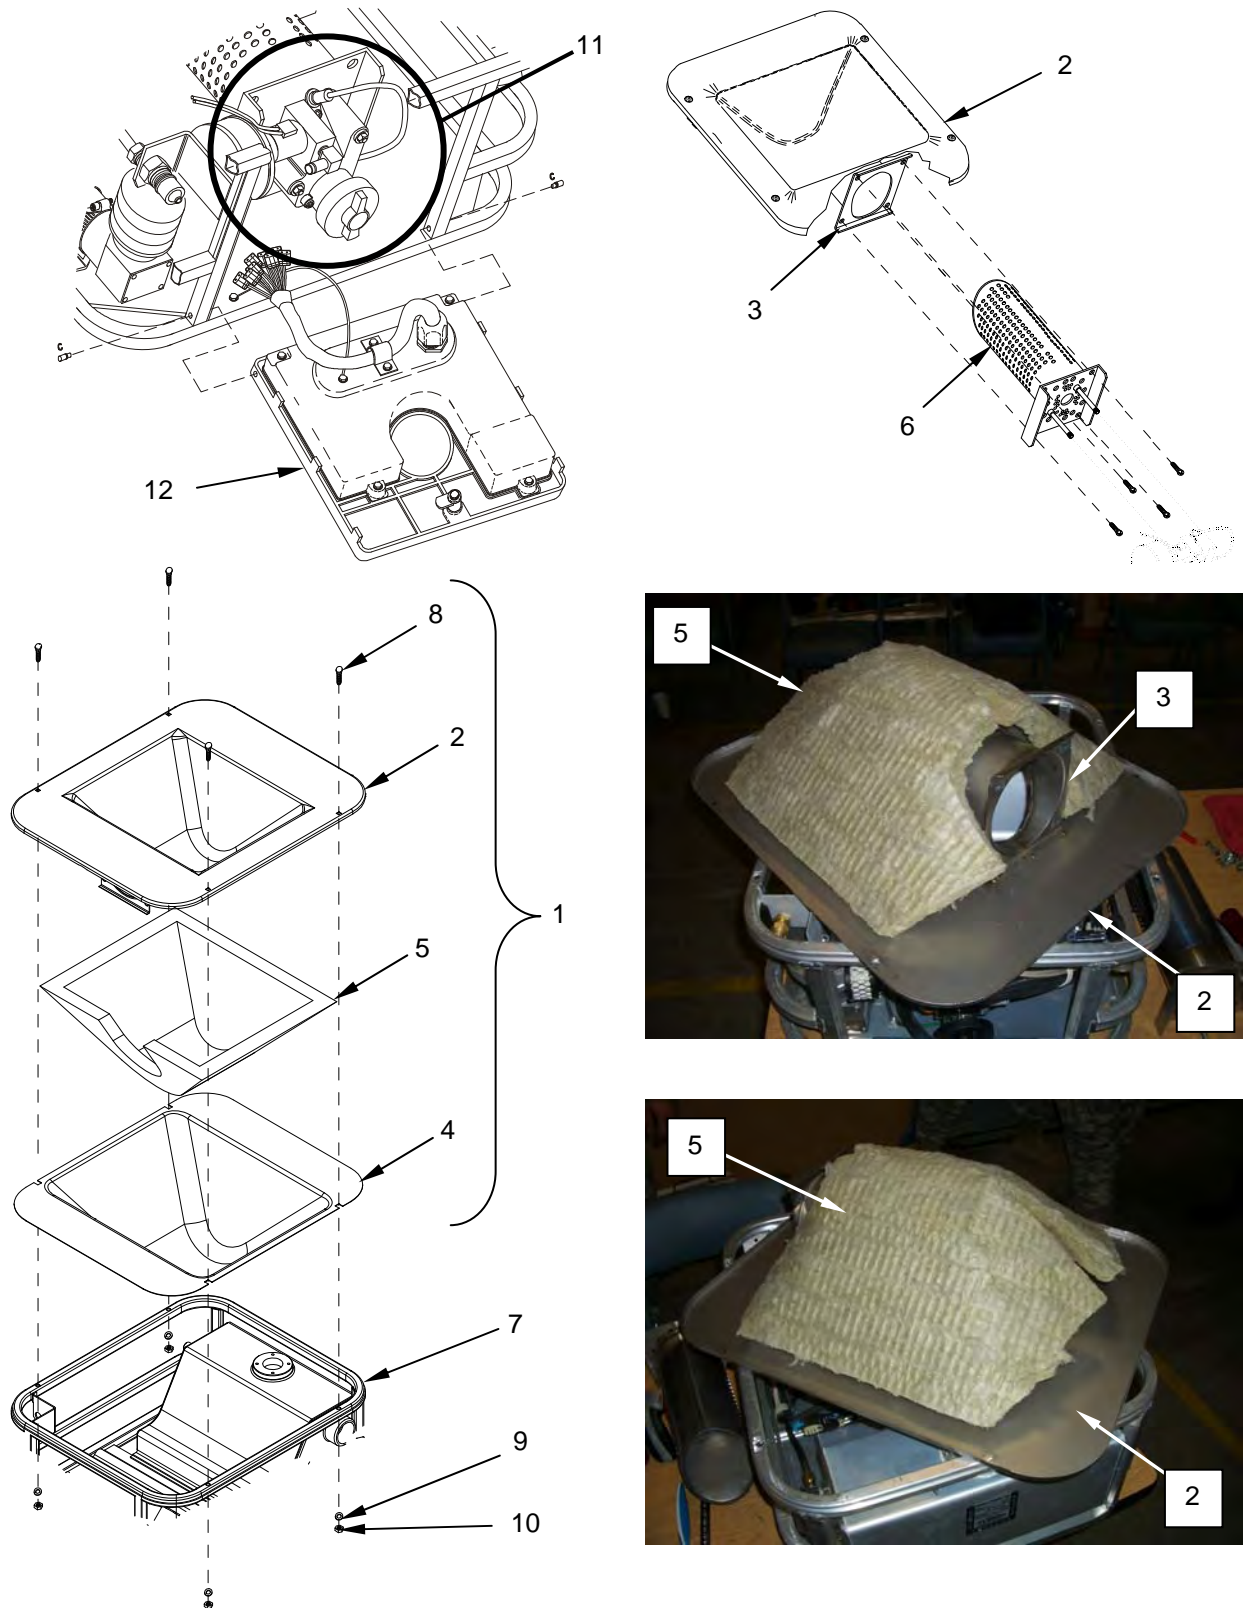

Figure 3. Replace the Burner Assembly and Reflective Heat Shield Assembly.
The reflective heat shield assembly insulation (Figure 3, Item 5) is made of fiberglass. Wear gloves to protect hands and a respirator to prevent inhalation of fiberglass particles.
8. If replacing the reflective heat shield assembly (Figure 3, Item 1), put a replacement reflective heat shield (Figure 3, Item 2) into position, making sure that the flange (Figure 3, Item 3) of the reflective heat shield (Figure 3, Item 2) fits through the opening on the burner well (Figure 3, Item 4) and that the insulation (Figure 3, Item 5) is not entering the well of the reflective heat shield (Figure 3, Item 2).
9. Flip the entire assembly face down on a work surface and press down on the burner well to expose the flange (Figure 3, Item 3).
10. Install the burner tube assembly (Figure 3, Item 6), making sure that the holes in the burner tube face out of the reflective heat shield when the assembly is mounted back on the MBU frame (Figure 3, Item 7). Secure burner tube with screws retained earlier.
11. Place the entire reflective heat shield and burner tube assembly back in place on the MBU frame (Figure 3, Item 7).
12. Install the four carriage bolts (Figure 3, Item 8), washers (Figure 3, Item 9), and self-locking nylon nuts (Figure 3, Item 10) securing the reflective heat shield assembly (Figure 3, Item 1) to the frame (Figure 3, Item 7).
13. Slide the fuel delivery block assembly (Figure 3, Item 11) onto the burner tube mounting shafts and secure with the hardware retained earlier.
14. Close and secure the control panel (Figure 3, Item 12).